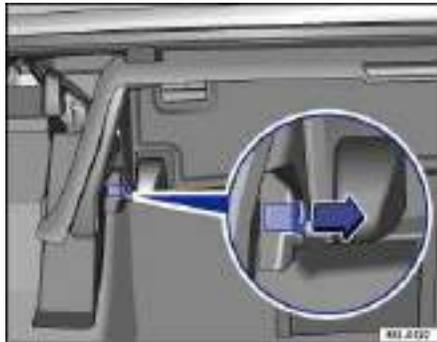

Fig. 98 Removing the inside luggage compartment cover.
- Pull the latch ⇒ fig. 98 (magnified view) in the direction of the arrow to release the hinge.